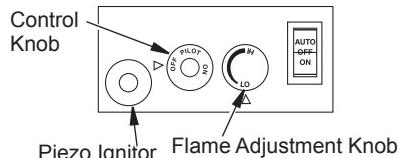

Figure 12 - Setting Control Knobs
4. Press in and turn control knob clockwise ↘ to the OFF position (see Figure 12).
5. Wait five (5) minutes to clear out any gas. If you then smell gas, STOP! Follow "B" in the safety information in column 1. If you don't smell gas, go on the next step.
6. Press in and turn control knob counter-clockwise ↗ to the PILOT position. Press in control knob for five (5) seconds (see Figure 12).